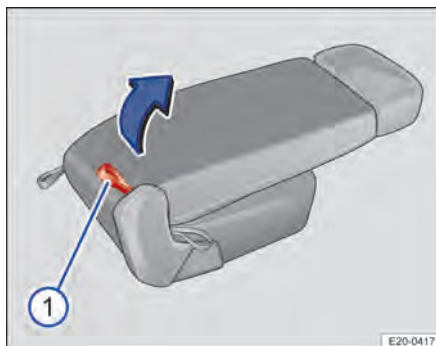

Fig. 67 Second row of seats: folding seat forward.
2. Pull the corresponding red loop → Fig. 67 ① on the back of the seat and fold the seat forwards.